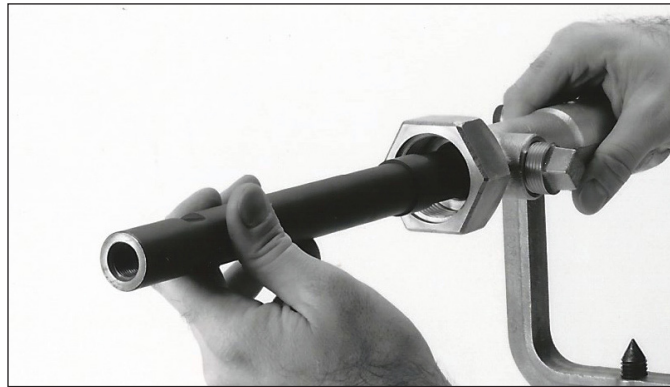

Fig. 2
2. Select the Adapter (DMA) that matches the outlet threads of the Corporation Stop and attach it to the bottom of the Drilling Machine (Fig. 2).